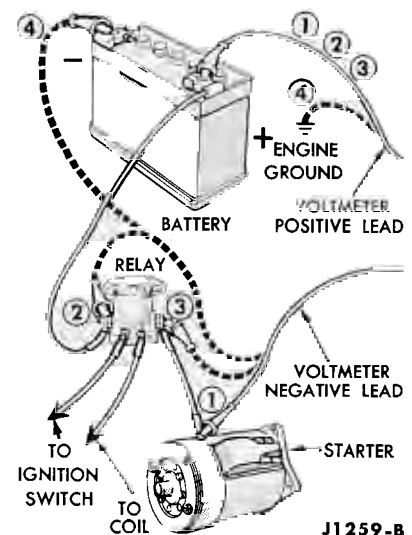

FIG. 9—Starter Cranking Circuit Test
and the positive lead connected to the battery positive terminal (Fig. 9, connection ①) 0.5 volt.
2. With the voltmeter negative lead connected to the battery terminal of the starter relay and the positive lead connected to the positive terminal of the battery (Fig. 9, connection ②) 0.1 volt.
3. With the voltmeter negative lead connected to the starter terminal of the starter relay and the positive lead connected to the positive terminal of the battery (Fig. 9, connection ③) 0.3 volt.
4. With the voltmeter negative lead connected to the negative terminal of the battery and the positive lead connected to the engine ground (Fig. 9, connection ④) 0.1 volt.
Excessive resistance in the starter circuit can be determined from the results of this test. Make the test connections as shown in Fig. 9. Crank the engine with the ignition OFF. This is accomplished by disconnecting and grounding the high tension lead from the spark coil and by connecting a jumper from the battery terminal of the starter relay to the ignition switch terminal(s), of the relay.